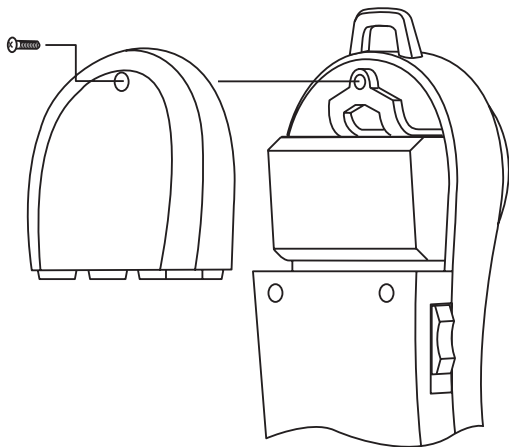

Figure 3-2. Replacing the battery.
1. Remove the single screw at the top of the Ranger's back panel with a #1 Philips-head screwdriver, then remove the test set's battery door, as shown in Figure 3-2 on the next page.